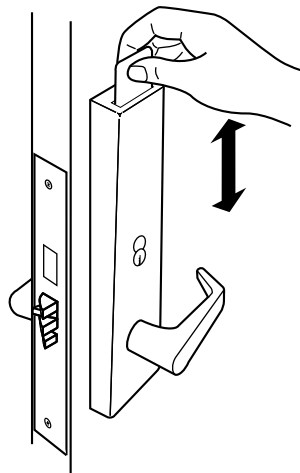

Figure 20
- 1 With the BEST logo facing toward you, insert and remove the temporary operator card (see Figure 20).